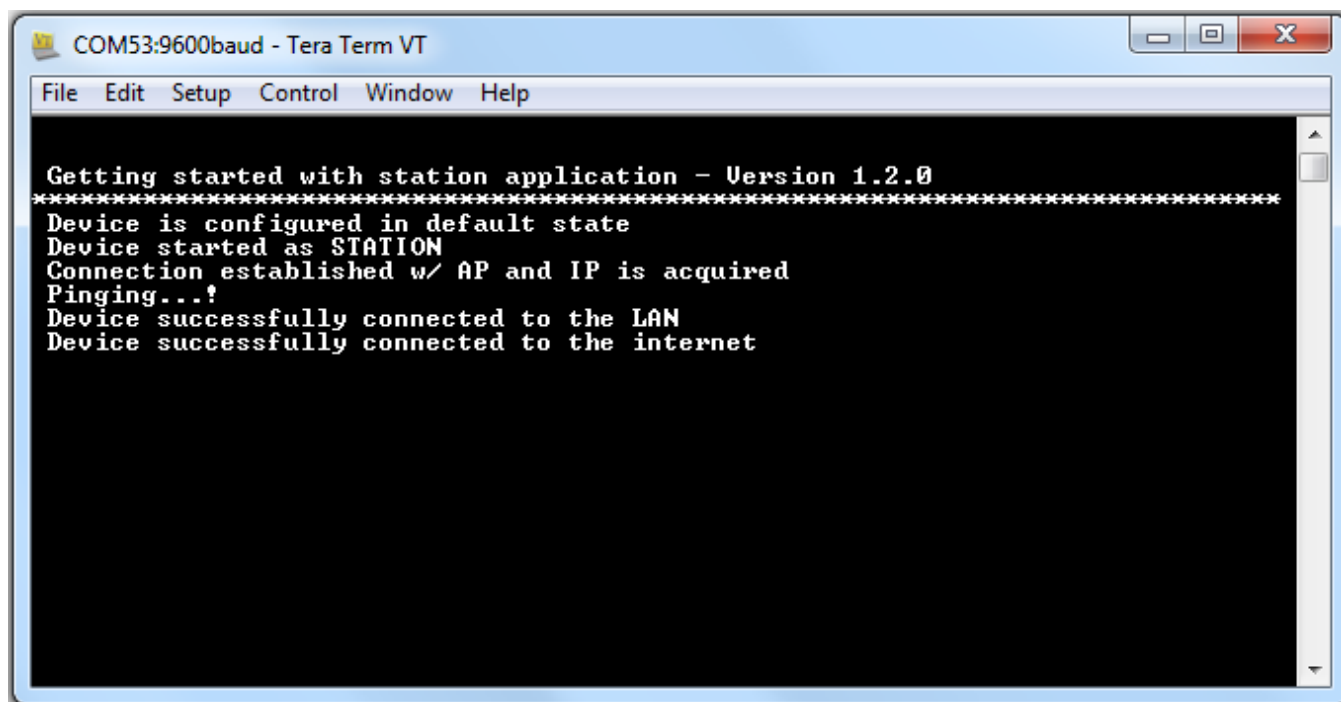

Figure 18. Tera Term VT
9. If the CC3100 successfully completes all steps, the serial output appears as shown in Figure 18.